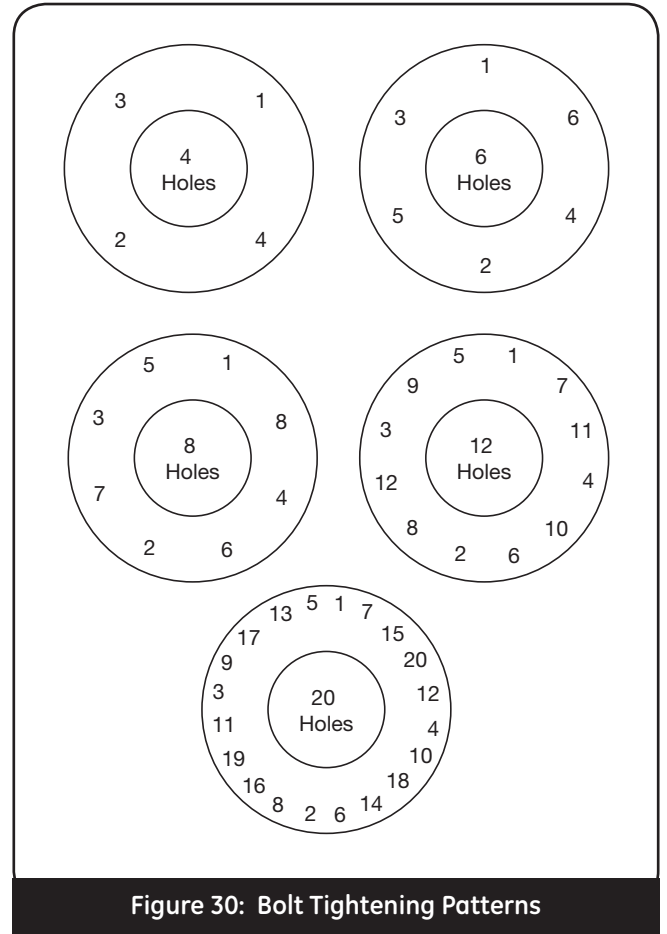

Figure 30: Bolt Tightening Patterns
17. Torque to the values found in Table 11 using the torque patterns in Figure 30 and Table 12.